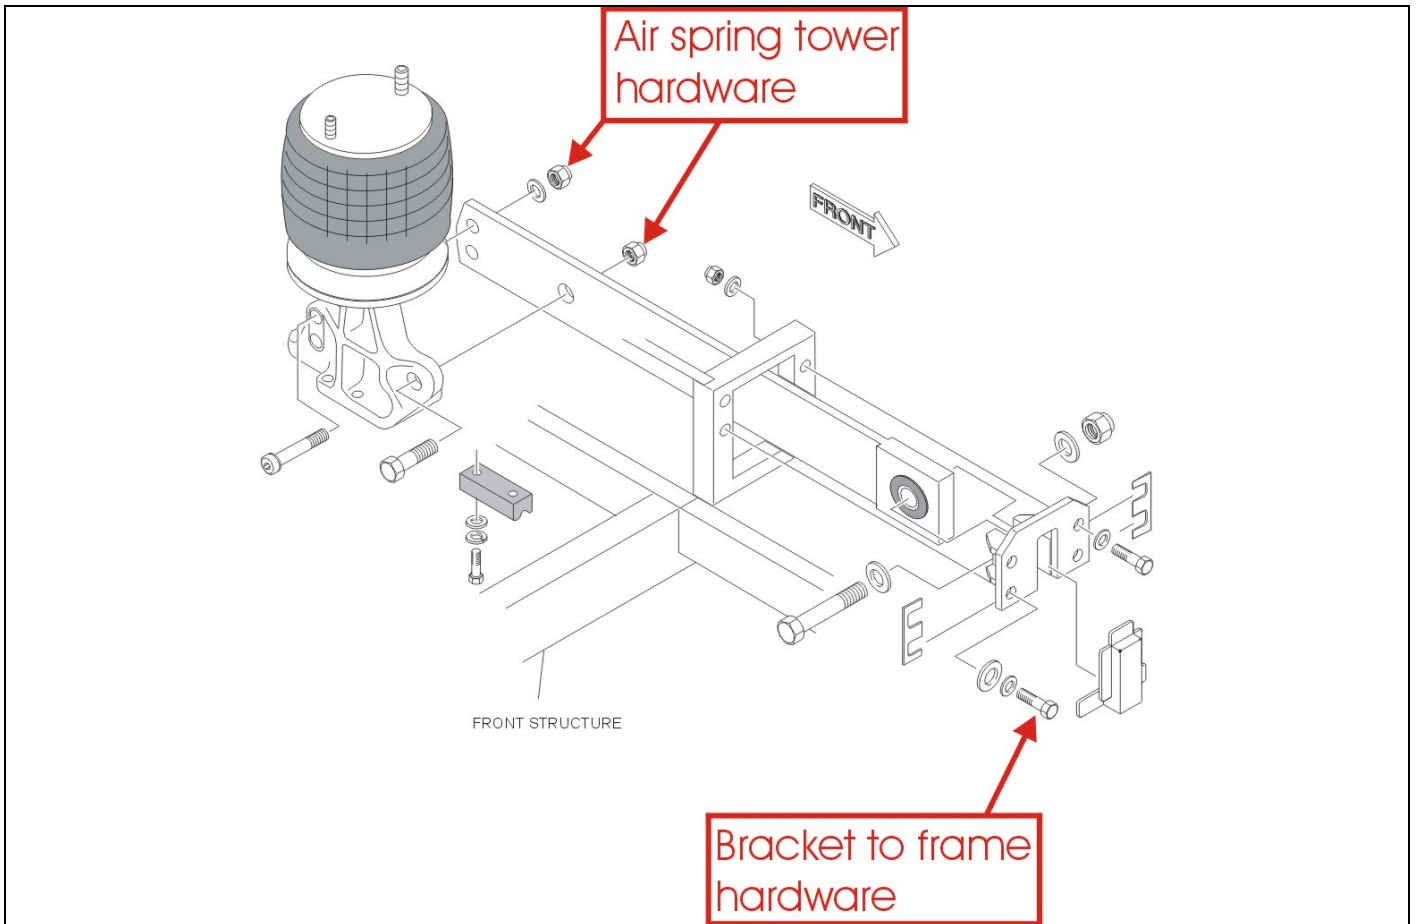

Figure 5: Curbside radius rod hardware.
- b. Remove hardware supporting radius rod to air spring tower. See Figure 5. Set all hardware aside for reuse.
- c. Remove hardware retaining radius rod bracket to frame. See Figure 5. Set all hardware aside for reuse.
- i. Reinstall hardware retaining the radius rod mounting bracket to the frame. Torque hardware to 75 ft-lbs with Never Seez. Bend lock plate against bolts. See Figure 5.